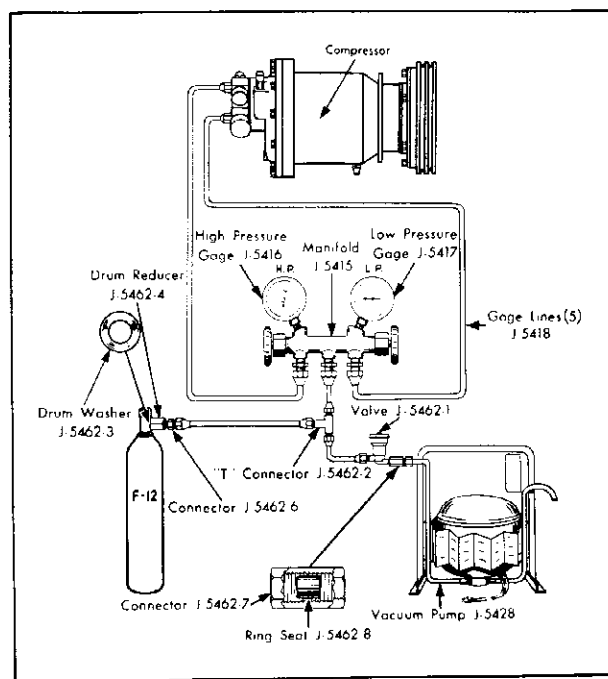

Fig. 16-A-5 Gage Connections For Evacuating or Adding Refrigerant
2. Connect gage lines to fittings as shown in Fig. 16-A-5. Make certain gage set valves and shut-off valve at vacuum pump are closed tightly.